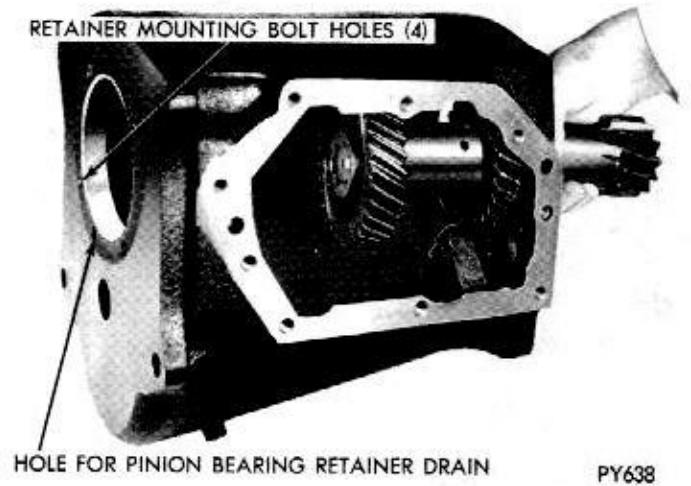

Fig. 13—Countershaft Gear and Arbor Assembly—Removal or Installation
(6) Coat rear thrust washer with heavy grease and stick it in place in the transmission case, with tangs rearward.
(7) Carefully place countershaft gear assembly in position in bottom of transmission case (Fig. 13). **Do not finish installation with countershaft and key until drive pinion is installed.**